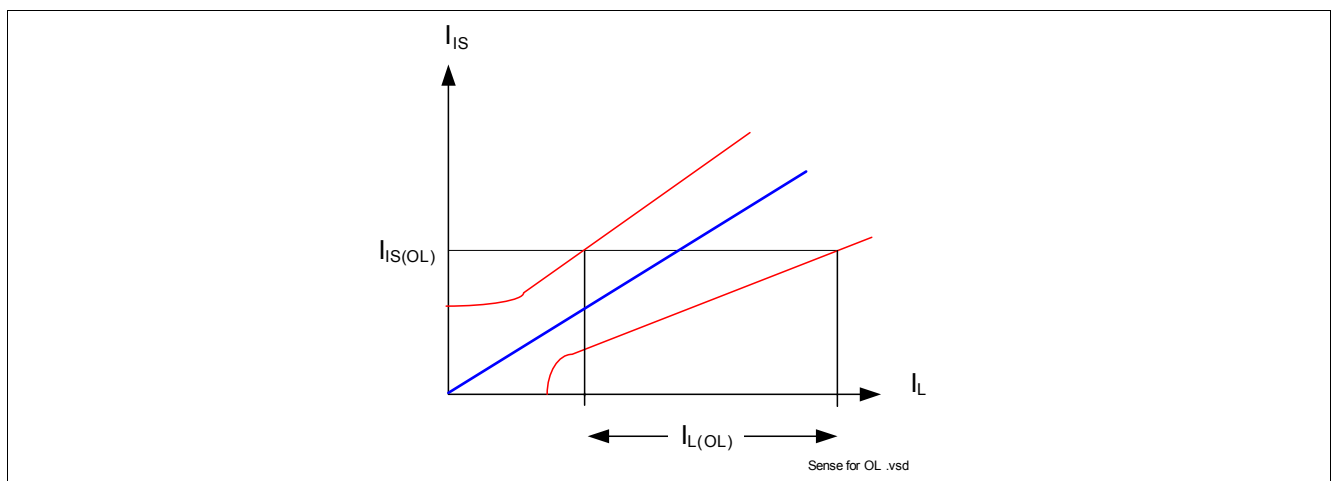

**Figure 22 Current Sense Settling / Disabling Timing**
**Figure 22** shows the timing during settling and disabling of the SENSE.
| Current sense settling time to $k_{ILIS}$ function stable after positive input slope on both INput and DEN | $t_{SIS(ON)}$                 | –      | –    | 150  | $\mu\text{s}$ | 2) $V_{DEN} = V_{IN} = 0\text{ to }4.5\text{ V}$$V_S = 13.5\text{ V}$$R_{IS} = 1.2\text{ k}\Omega$$C_{SENSE} < 100\text{ pF}$$I_L = I_{L3} = 0.5\text{ A}$See <a href="#">Figure 22</a> | P_7.5.18 |
| Current sense settling time with load current stable and transition of the DEN                             | $t_{SIS(ON\_DEN)}$            | –      | –    | 10   | $\mu\text{s}$ | $V_{IN} = 4.5\text{ V}$$V_{DEN} = 0\text{ to }4.5\text{ V}$$R_{IS} = 1.2\text{ k}\Omega$$C_{SENSE} < 100\text{ pF}$$I_L = I_{L3} = 0.5\text{ A}$See <a href="#">Figure 22</a>                      | P_7.5.19 |
| Current sense settling time to $I_{IS}$ stable after positive input slope on current load                  | $t_{SIS(LC)}$                 | –      | –    | 15   | $\mu\text{s}$ | $V_{IN} = 4.5\text{ V}$$V_{DEN} = 4.5\text{ V}$$R_{IS} = 1.2\text{ k}\Omega$$C_{SENSE} < 100\text{ pF}$$I_L = I_{L2} = 0.2\text{ A to }I_L = I_{L3} = 0.5\text{ A}$See <a href="#">Figure 22</a>   | P_7.5.20 |
| Diagnostic disable timeDEN transition to$I_{\text{IS}} < 50\% I_{\text{L}}/k_{\text{ILIS}}$ | $t_{\text{SIS(OFF)}}$       | –      | –    | 20   | $\mu\text{s}$ | $V_{\text{IN}} = 4.5\text{ V}$$V_{\text{DEN}} = 4.5\text{ V to }0\text{ V}$$R_{\text{IS}} = 1.2\text{ k}\Omega$$C_{\text{SENSE}} < 100\text{ pF}$$I_{\text{L}} = I_{\text{L3}} = 0.5\text{ A}$See <a href="#">Figure 22</a> | P_7.5.25 |